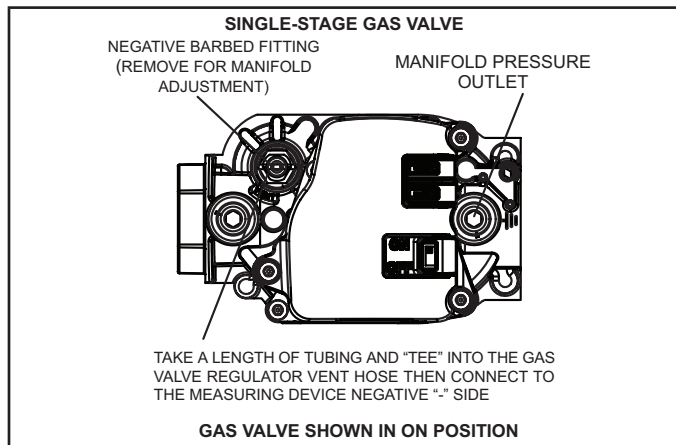

FIGURE 8
When testing manifold gas pressure, use the 1/8" N.P.T. plugged tap (manifold pressure outlet) located on the gas valve to facilitate test measuring device. See figure 8.
- 7 - Remove the negative barbed fitting as shown in figure 8 and using a screw driver make adjustment to increase or decrease manifold pressure.